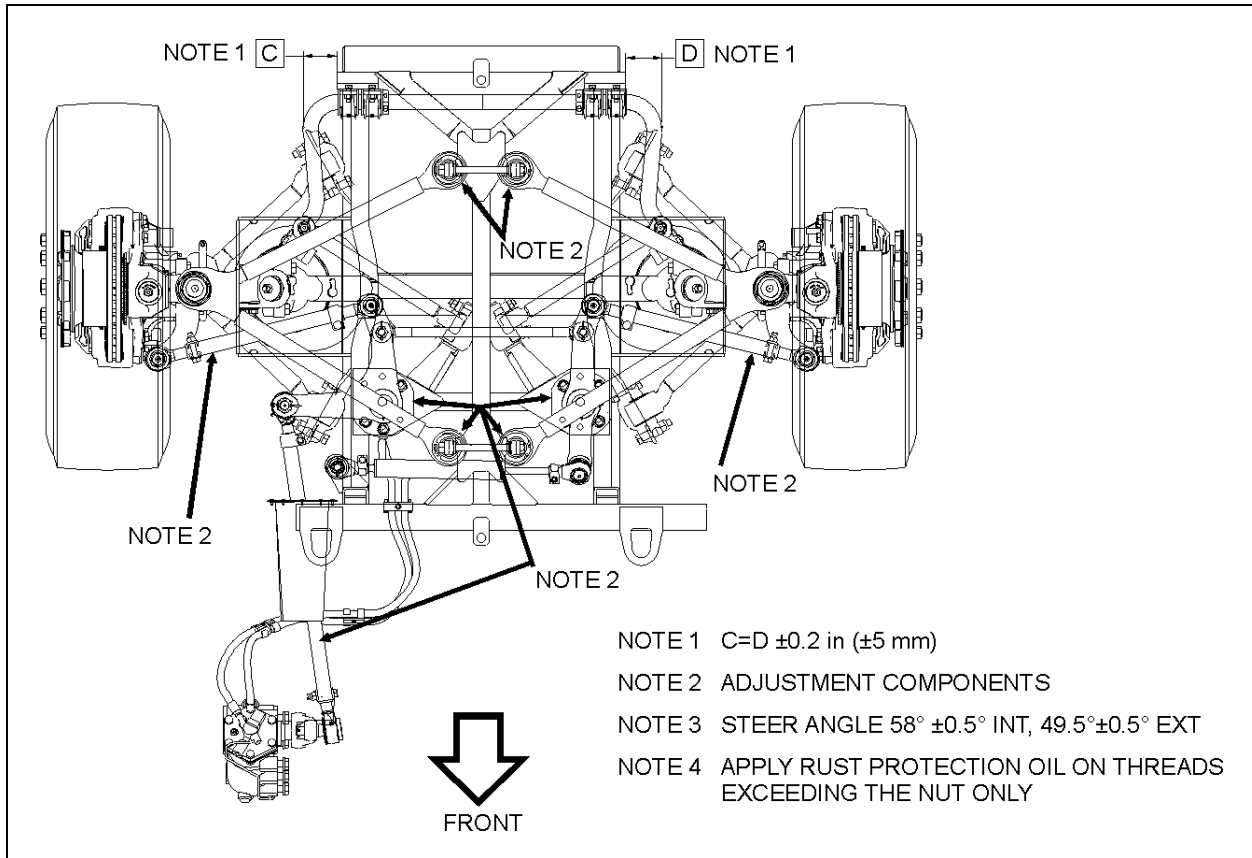

FIGURE 26: NOTE 2 INDICATES WHERE ADJUSTMENT MAY BE PERFORMED WHEN PROCEEDING TO IFS ALIGNMENT
2. Using a pipe wrench, turn the tie rod tubes to obtain the toe-in measurement specified in step 5 under paragraph "Toe-in Check" (figure 26).
Caster variations may be caused by bent upper suspension A-arm, lower suspension A-arm, or kingpin housing. Caster should be adjusted with shims. Precision instruments should be used to measure caster. Shim bell crank and idler arm to adjust caster (figure 26).
See figure 26 & 27.